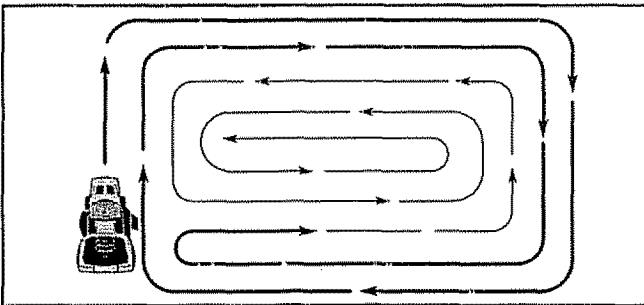

FIG. 9A
- When mowing large areas, start by turning to the right so that clippings will discharge away from shrubs, fences, driveways, etc. After one or two rounds, mow in the opposite direction making left hand turns until finished (See Fig. 9A).